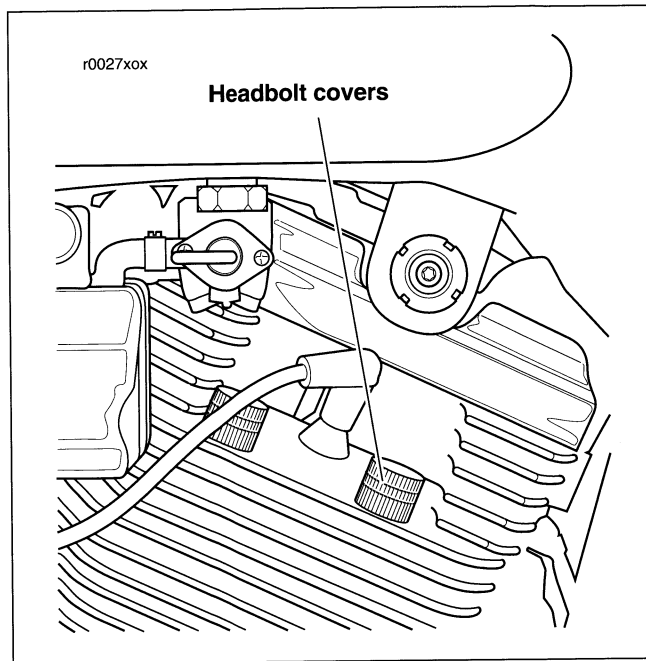

Figure 32. Headbolt Covers
1. See Figure 32. Locate the set screw on the headbolt cover.